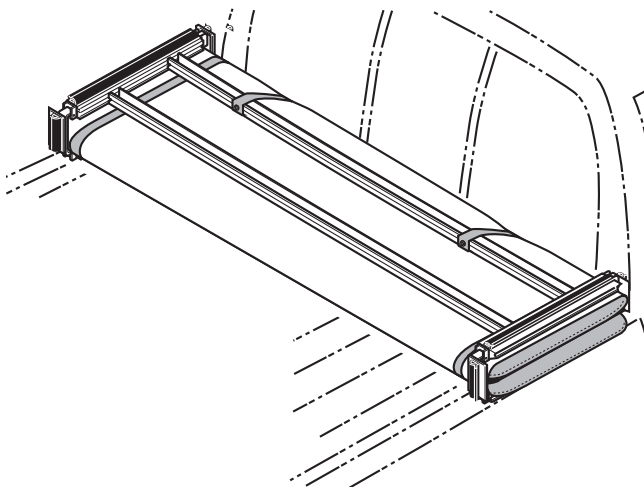

Figure 6
1. Place tonneau cover assembly over cab end of truck bed (fig. 6).